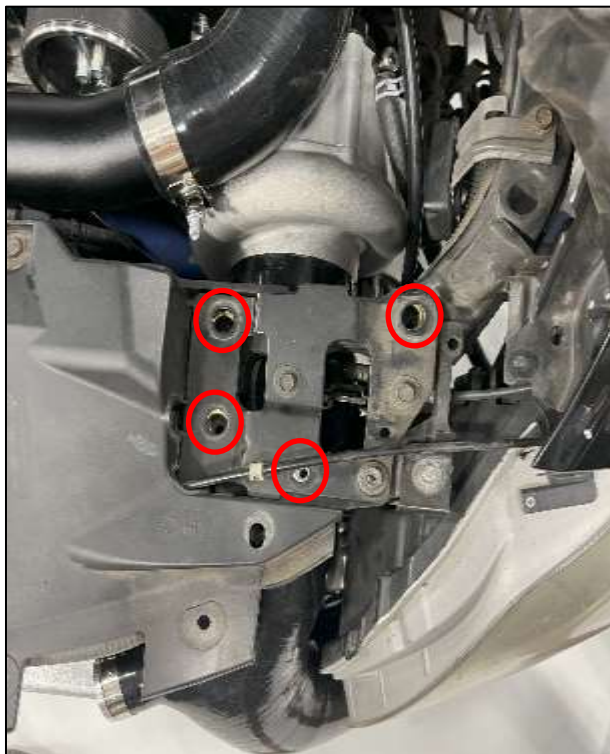

Figure 48
1. Locate the K&N Air Filter (#66), the Large Silicone Intake Pipe (#67), 84mm Metal Air Filter Joiner (#68), and (2) two large 3.5" Worm Gear Clamps (#69).
4. **G37 Owners:** Lift up on the rubber hood seal just behind the driver headlight. Remove the driver side hood latch bolts on the top of the radiator core support, just in front of the blower. Lift hood latch assembly up and out of the way. *Figure 48.*